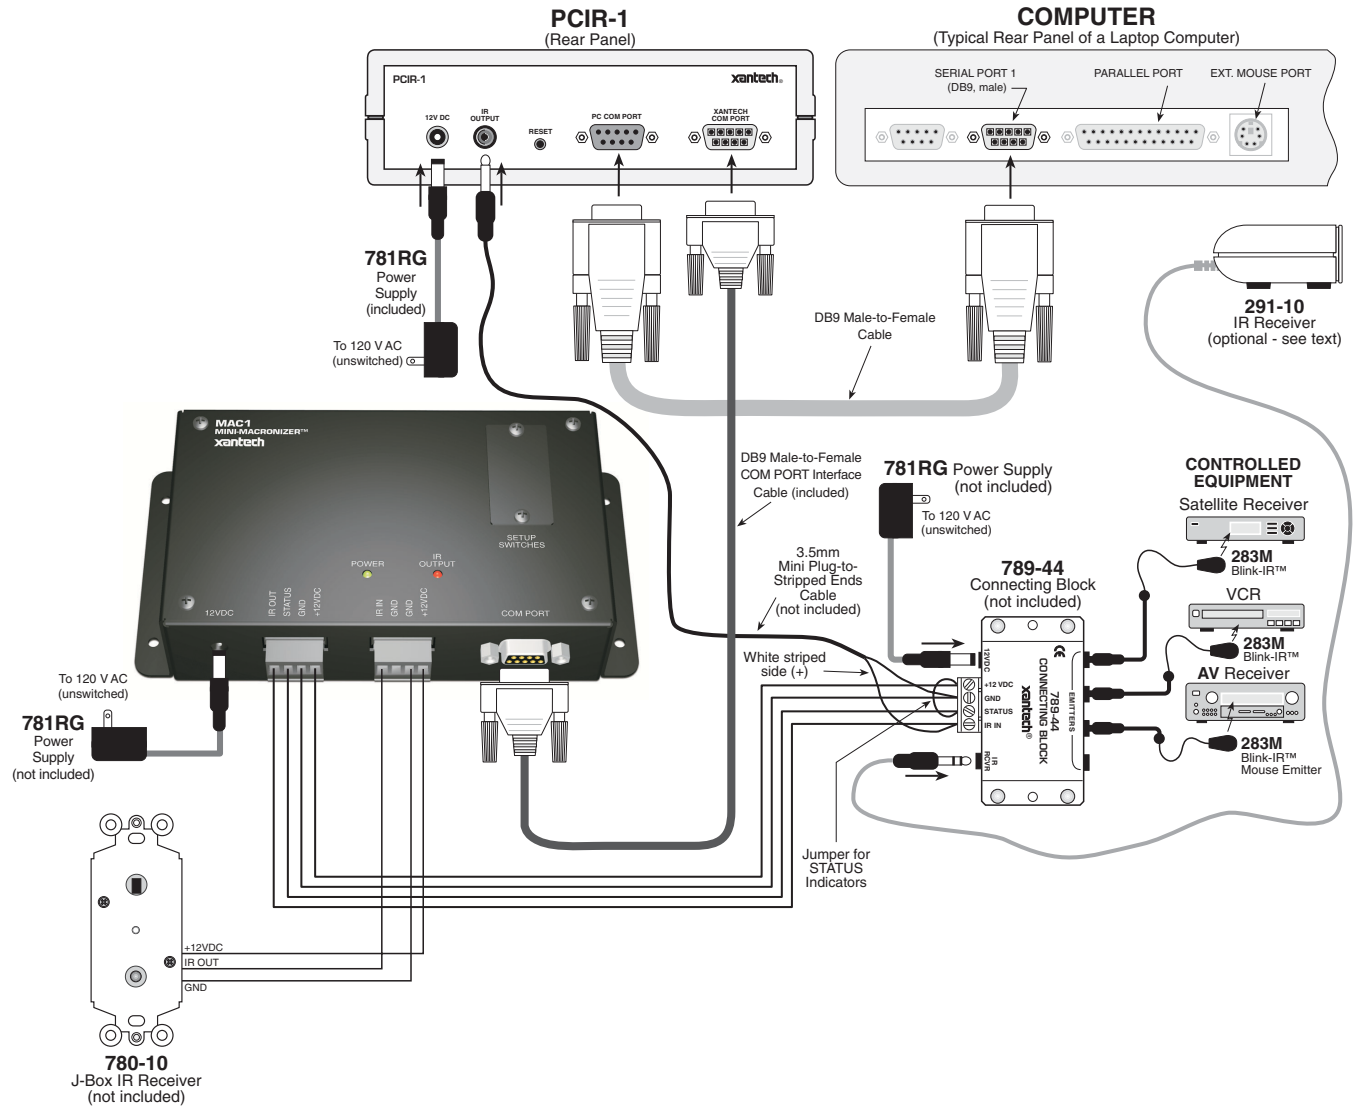

FIGURE 1 – HARDWARE CONNECTIONS
1. Connect all of the hardware together using the cables provided. Refer to **Figure 1**.
2. Connect the OUTPUT of the MAC1 to be programmed to the product to be controlled to test commands. **Figure 1** shows connections to a typical basic system.
3. **Figure 1** also shows a 291-10 IR Receiver as an optional item. You could use this to test IR commands on the controlled equipment through the IR system before they are learned and programmed by Dragon Drop-IR, if programming IR.
10. With the PCIR connected to the Connecting Block as shown in Fig 1, select “TEST” in the Palette Editor. The TEST button will turn red.